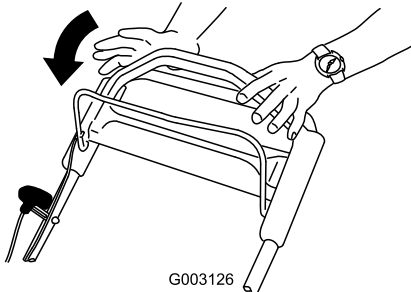

**Figure 20**
3. Hold the blade-control bar against the handle (Figure 20).